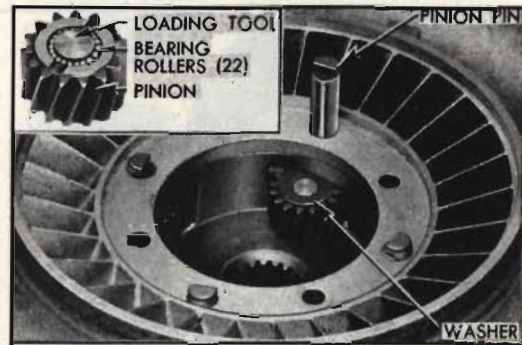

Fig. 36. Installing pinion in carrier
NOTE: A loading tool 11/16" long by 3/8" diameter, made locally, will simplify installation of pinion gears (Fig. 36).
- b. Place assembled pinion gear in carrier and install a pin, notched end up. After loading pin is pushed from carrier, pinion pin may be held in position by placing a block under it. All notched ends of pinion pins must face center of carrier (Fig. 36).